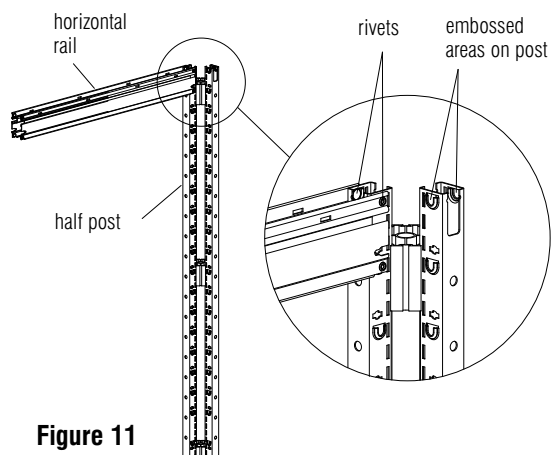

Figure 11
1. Slide an enhanced horizontal into the top of a vertical half post with the rivets above the embossed area on the post. Making sure all four rivets are lined up with the corresponding embosses, tap the horizontal into place with a dead-blow style mallet. **Figure 11.**